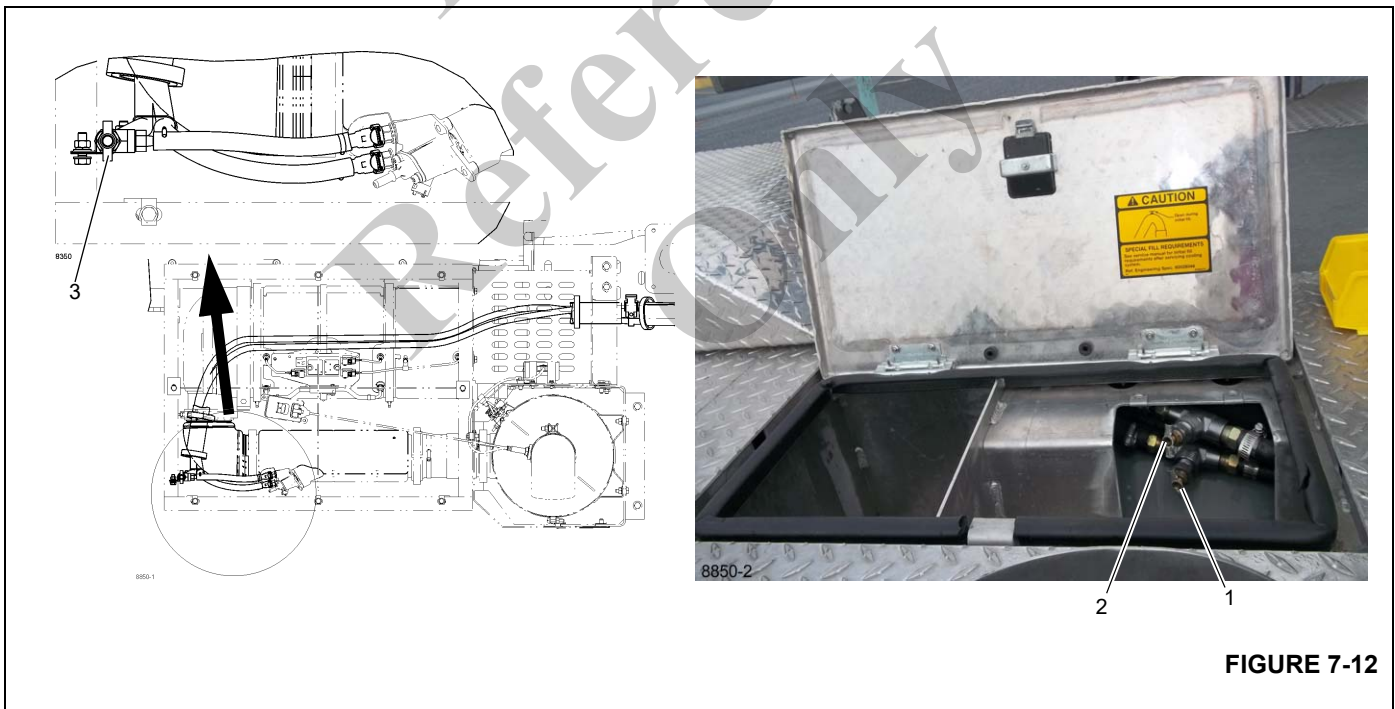

FIGURE 7-12
2. Open petcocks at the Diesel Exhaust Fluid (DEF) Tank (1,2) (Figure 7-12), Decomposition Pipe enclosure (3) and Top Radiator Tube to allow trapped air to bleed.